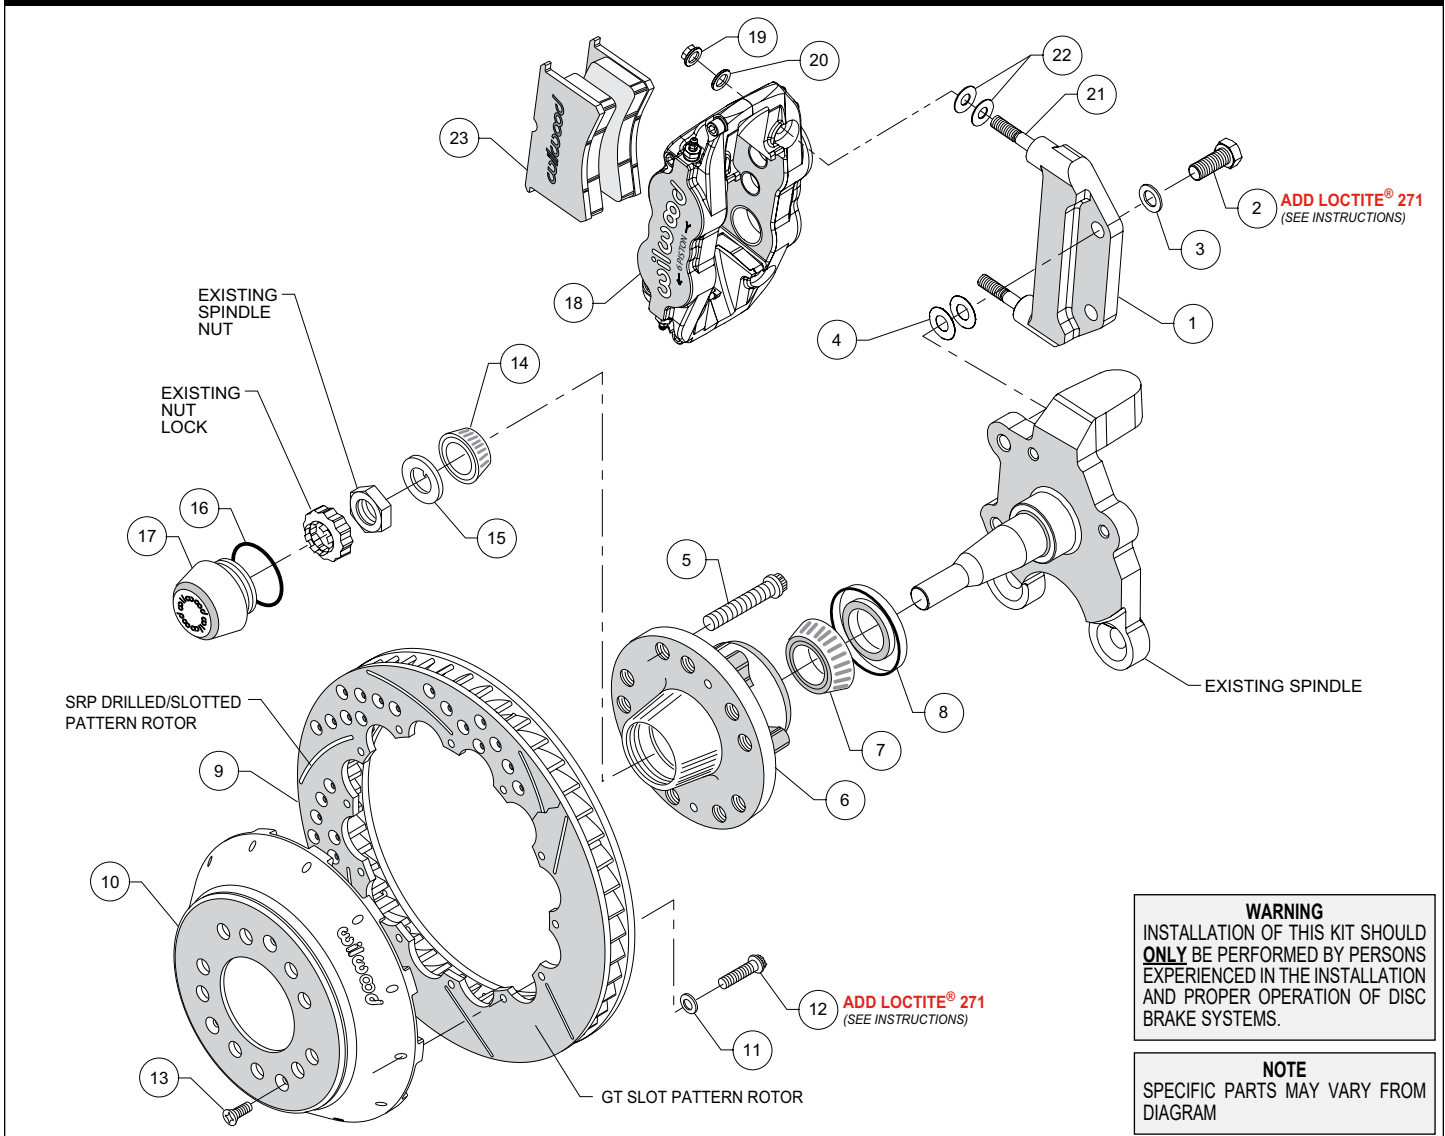
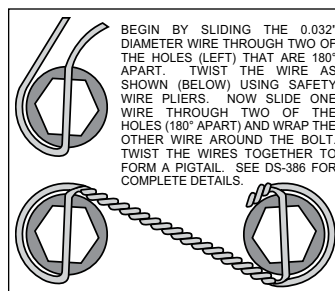

Figure 1. Typical Installation Configuration
Figure 3. Safety Wire Diagram
**Assembly Instructions** (numbers in parenthesis refer to the parts list on the preceding page, and Figure 1):
- The caliper mount bracket (1) should initially be installed with clean, dry threads on the mounting bolts. Orient the bracket as shown in Figure 1, and install using bolts (2) and washers (3). Initially place two .015" thick shims (4) on each bolt between the bracket and upright, Figure 1 and Photo 1. Temporarily tighten the mounting bolts. **NOTE: The bracket must fit squarely against the mount bosses on the upright.** Inspect for interference from casting irregularities, machining ridges, burrs, etc. Later, after the caliper alignment has been checked, the mount bolts will be secured using red *Loctite*® 271.
- Pack the large inner bearing cone (7) with high temperature disc brake bearing grease (available from your local auto parts store) and install into the backside of the hub (6), Photo 3.
- Install the grease seal (8) by pressing into the backside of the hub (6), flush with the end of the hub, Photo 3.
- Orient the rotor (9) and the hat (10) as shown in Figure 1 and Photo 4. Attach rotor to hat using bolts (12) and washers (11). Apply red *Loctite*® 271 to the bolt threads and torque to 155 **in-lb** using a criss-cross pattern. For an added measure of security, the bolts may be safety wired using standard 0.032 inch diameter stainless steel safety wire as shown in Figure 3. Refer to Wilwood's data sheet DS-386 (available at [www.wilwood.com/Pdf/DataSheets/ds386.pdf](http://www.wilwood.com/Pdf/DataSheets/ds386.pdf)) for complete safety wire installation instructions.
•**NOTE:** This kit contains distinct right and left hand calipers that must be mounted in a specific direction, as described below. Initially place two .035" thick shims (22) on each stud (21) between the caliper and the bracket, as shown in Figure 1 and Photo 7. Mount the caliper (18) onto the bracket (1) using lock nuts (19) and washers (20), Figure 1. Ensure that the caliper is mounted so the largest pistons are at the rotor exit end of the caliper, in relation to the direction of rotor rotation. Temporarily tighten the lock nuts and view the rotor through the top opening of the caliper. The rotor should be centered in the caliper, Photo 8. If not, adjust by adding or subtracting shims (4) between the bracket and the upright. Always use the same amount of shims on each of the two mounting bolts. Once the caliper alignment is correct, remove the bracket mounting bolts one at a time, apply red *Loctite*® 271 to the threads, and torque to 65 ft-lb.